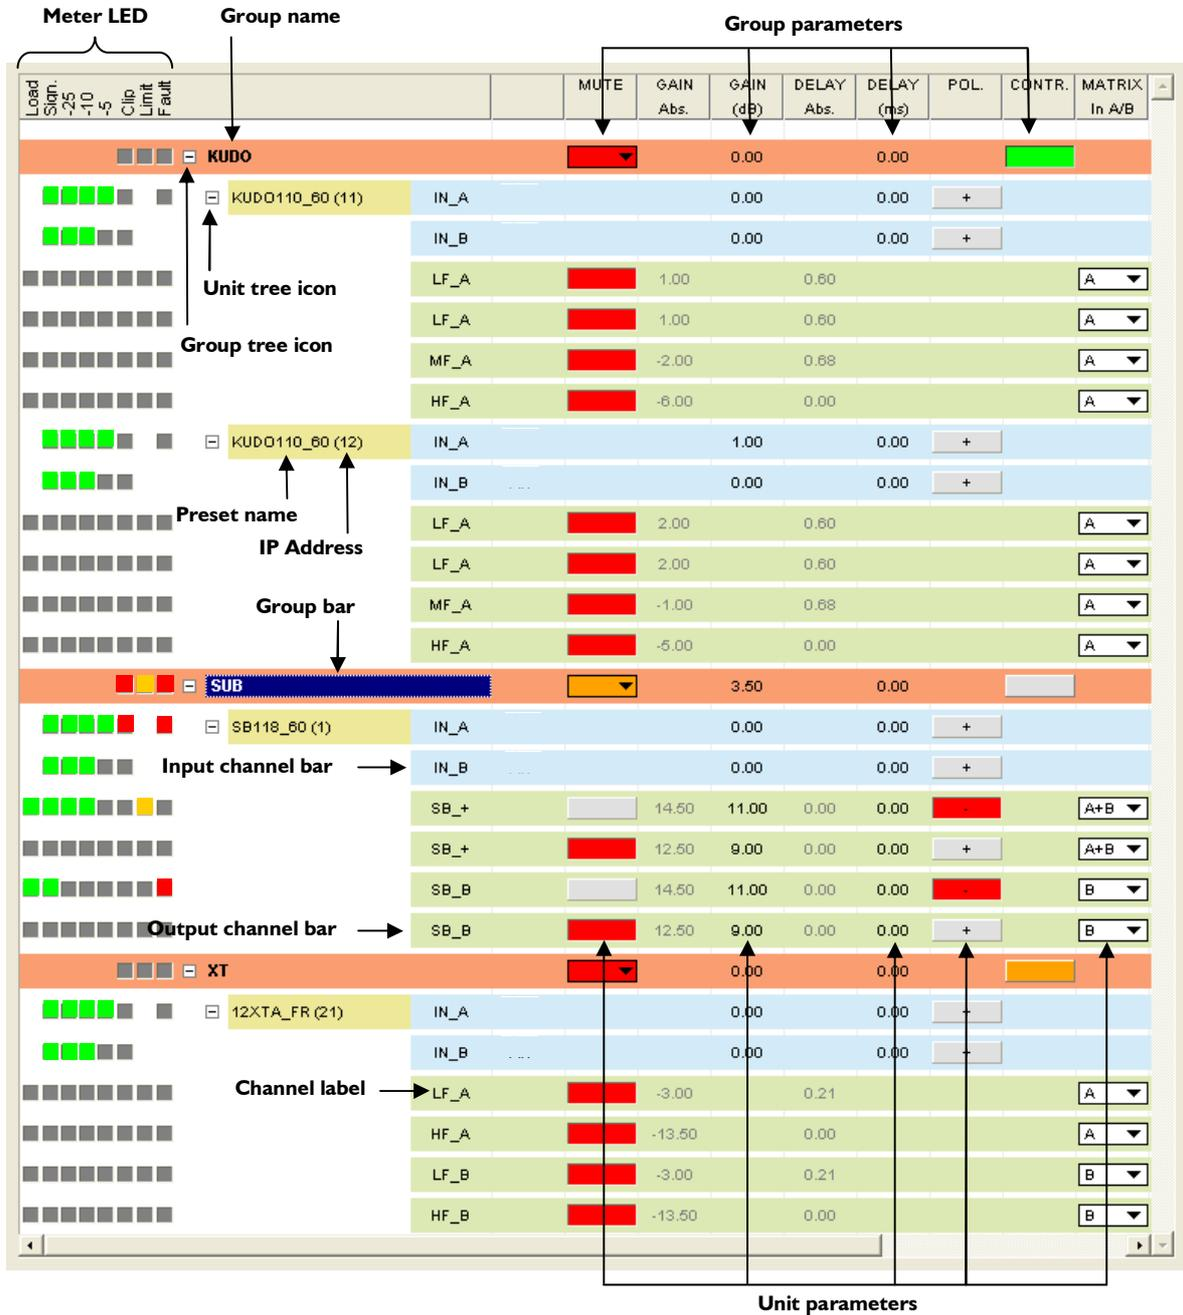

Figure 22: Control window
The **control window** (Figure 22) allows overall monitoring and control of the **current system** through a removable tree.
↵ The user can display or hide information by alternatively clicking on the tree icons: by default, only the **brown group bars** are displayed. Clicking on the **group** tree icon will add the **blue input channel bars**, and clicking on the **unit** tree icon will add the **green output channel bars** (Figure 22).
**LOAD** The **green** **Load** LED is lit when a speaker is connected at the corresponding **unit's output channel** and when the output power reaches at least 1 W (at 4 Ω). **Example:** In Figure 22 a speaker is connected to the **SBI 18\_60 output channel 1**.
**SIGNAL** The **green** **Signal** LED is lit when a signal is detected at the corresponding **unit channel** (input or output). **Example:** In Figure 22 a signal is detected at the **SBI 18\_60 output channel 1**.
**dB** The **green** **-25**, **-10**, **-5** **dB** LED are lit when the **unit channel** voltage (input or output) reaches respectively 25, 10, or 5 dB below the maximum level. **Example:** In Figure 22 the **SBI 18\_60 output channel 1** signal reaches 10 dB below the maximum level.
**CLIP** The **red** **Clip** LED is lit when the channel voltage (input or output) reaches the maximum level (22 dBu for the **input channels**). **Example:** In Figure 22 the **SBI 18\_60 input channel A** signal reaches the clip level. The **Clip** LED in the **group bar** is also lit.
**LIMIT** The **yellow** **Limit** LED indicates that the L-DRIVE or Temperature protection is active on the corresponding **output channel**. The signal is attenuated or muted. **Example:** In Figure 22 the **SBI 18\_60 output channel 1** signal is attenuated. The **Limit** LED in the **group bar** is also lit.
**FAULT** The **red** **Fault** LED indicates that one or several **input or output channels** on the **unit** are no longer operational. **Example:** In Figure 22 the **SBI 18\_60 output channel 3** is in faulty state, the signal is muted. The **Fault** LED in **input channel bar A** and in the **group bar** are also lit.